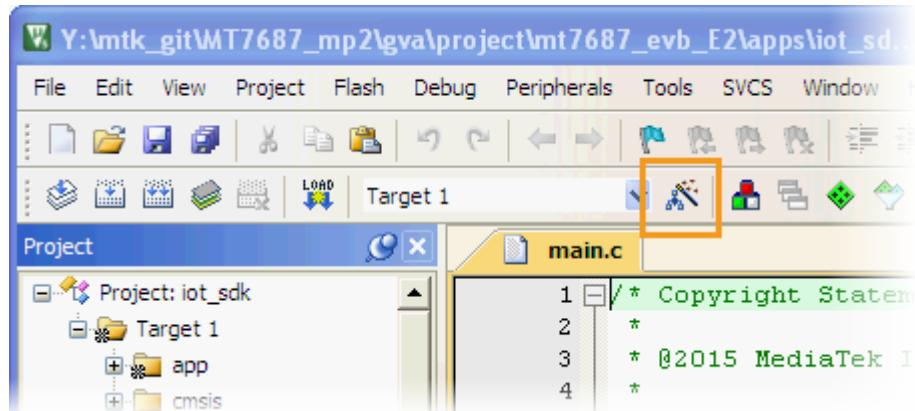

Figure 50. Set download configuration on µVision IDE
- 3) Click **Options for Target** or navigate to **Project**, then **Options for ...** and select **Target** on the main menu of the IDE (see Figure 50).
- 1) Click **Options for Target** or navigate to **Project**, then **Options for ...** and select **Target** on the main menu of μVision IDE, as shown in Figure 50.
- 5) Click **Options for Target** or navigate to **Project**, then **Options for ...** and select **Target** on the main menu of, as shown in Figure 50.